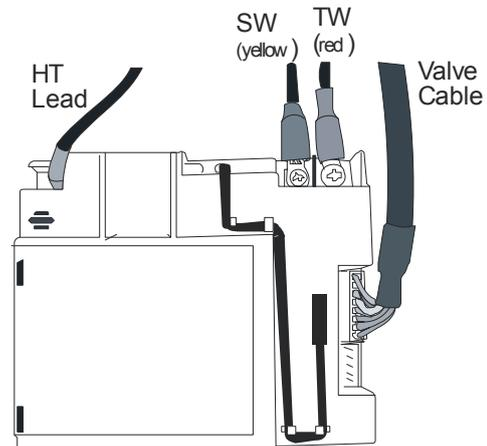

Figure 64
2. Pull out the four cables through the heat shield and connect them as shown in **Figure 64**.